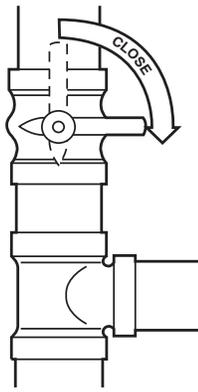

Fig. 8 – Close Valve
2. Close the external manual gas valve. See Fig. 8.